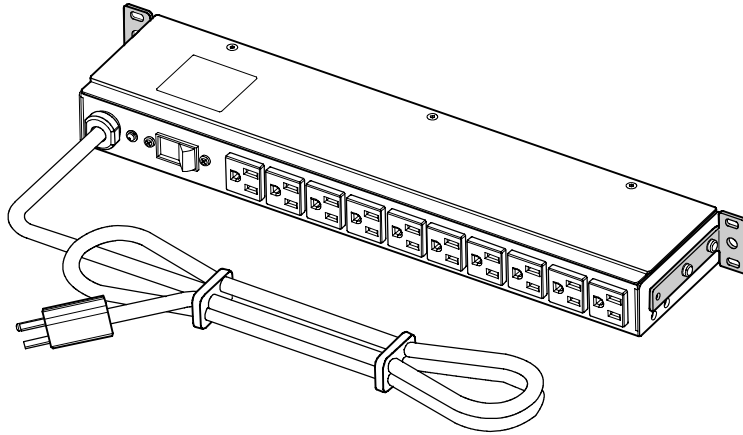
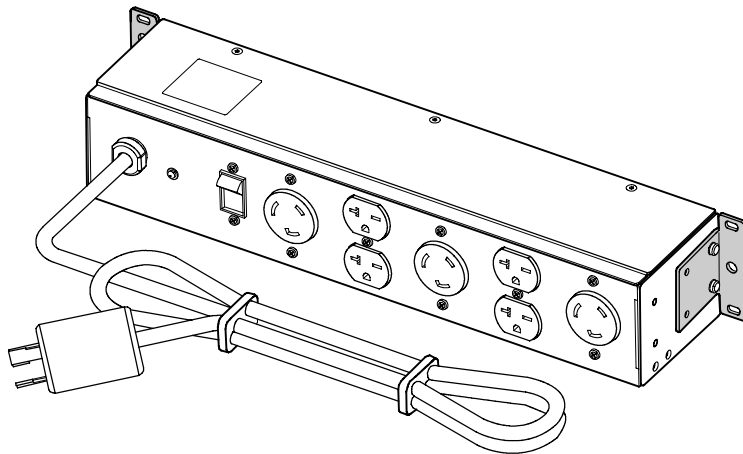

Figure 3. 1U Wall Mounting Bracket Installation (PW101BA1U001 Shown)
Figure 4. 2U Wall Mounting Bracket Installation (PW103BA2U009 Shown)
2. Rotate the brackets 180 degrees and align the brackets with the screw holes on the sides of the ePDU in the wall mounting location (see Figure 3 or Figure 4).